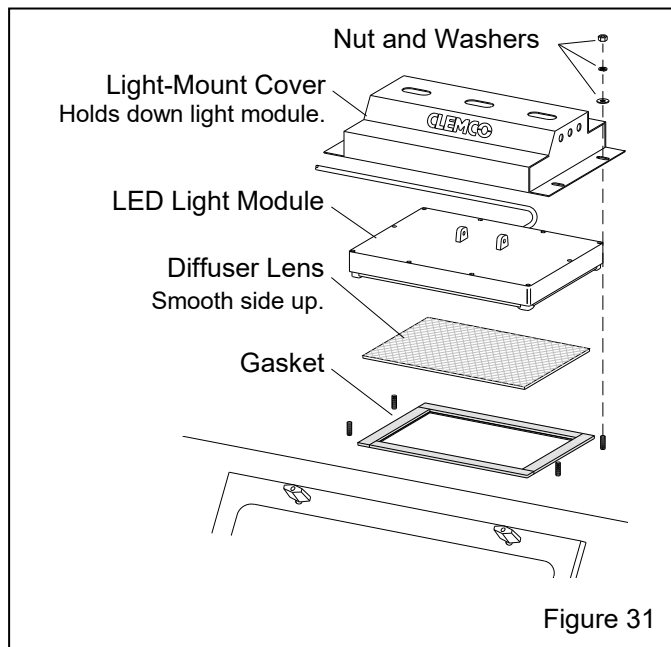

Figure 31
7.7 Light Assembly – Figure 31
7.7.1.2 Remove the four nuts and washers that attach the light-mount cover to the cabinet and remove the cover, as shown in Figure 31.
7.7.2.3 Lay a section of strip gasket along the edge of the opening and cut to length, allowing 3/4" overlap on each end. Peel a short section of adhesive backing and adhere the strip gasket to the top edge of the light opening, as shown in Figure 31. Press the gasket to bond. Repeat the process for each side, compressing the ends to seal.